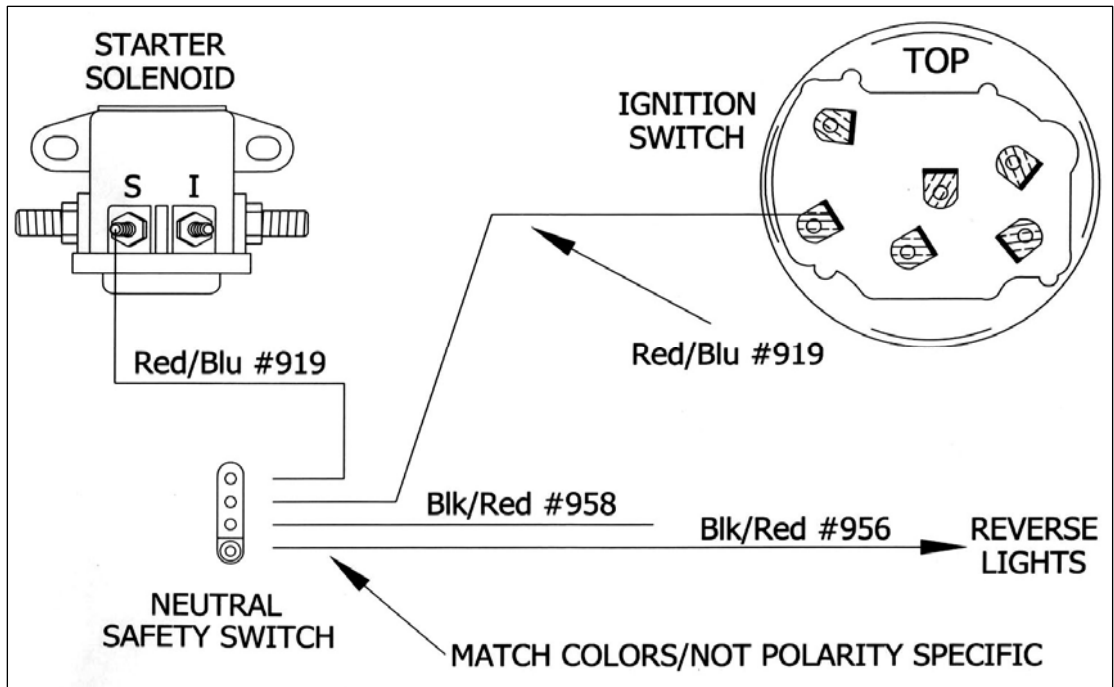

Figure 7-10 NEUTRAL SAFETY SWITCH (All Models with Auto Trans)
- 7.3.6** Neutral Safety/Backup Light Switch wire #'s 958, 956 and 919 (2 wires) all breakout from the firewall in the UNDER DASH SECTION. #958 is the power source to the switch for the backup lights and #956 is the wire connected to the actual bulbs. The red/blue wire #919 provides the start signal to the Neutral Safety switch. Then the other red/blue wire #919 carries the start signal from the Neutral Safety switch to the Starter Solenoid. Neither of the #919 wires are polarity specific. **See Figure 7-10.**